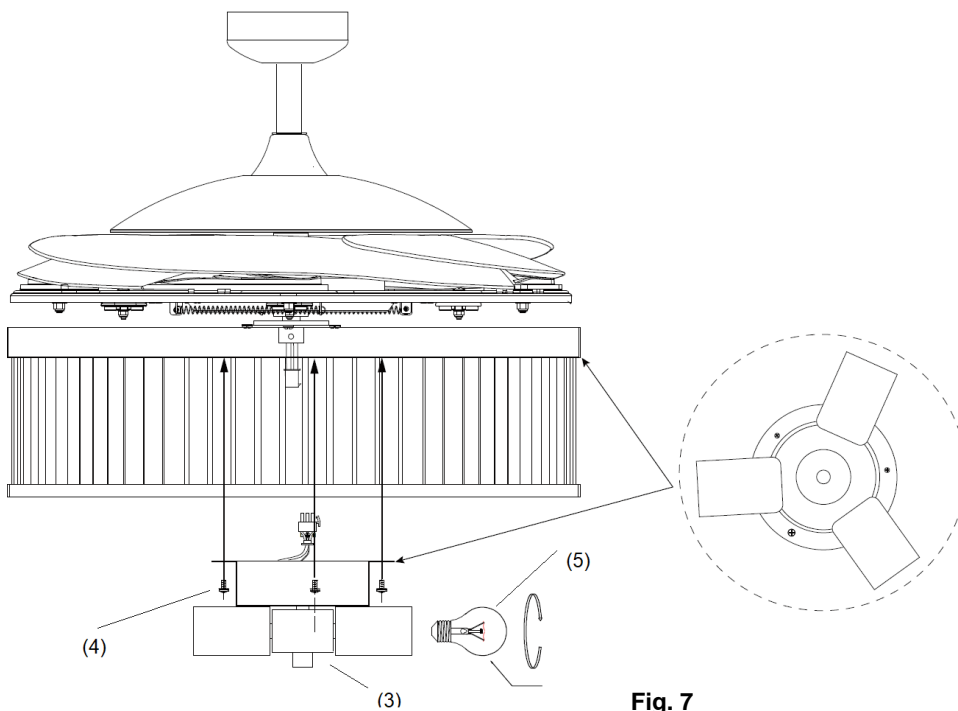

Fig. 7
4. Connect the quick connector to the lamp holder part (3). (Fig. 7)
5. Secure the lamp-holder part (3) to the light kit bracket by tightening the 3 screws (4). Do not over-tighten.
6. Install the globes (5) (Not included) to the lamp holders. Do not exceed the maximum power rating.